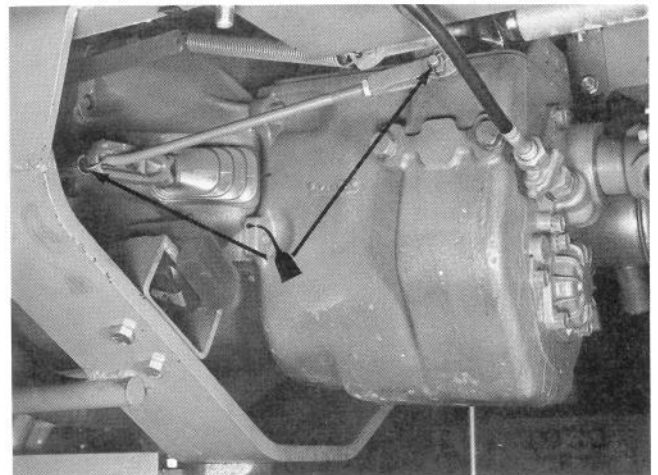

Figure 53
1. The clutch linkage should be lubricated with SAE 30 engine oil every 600 hours (Fig. 53).